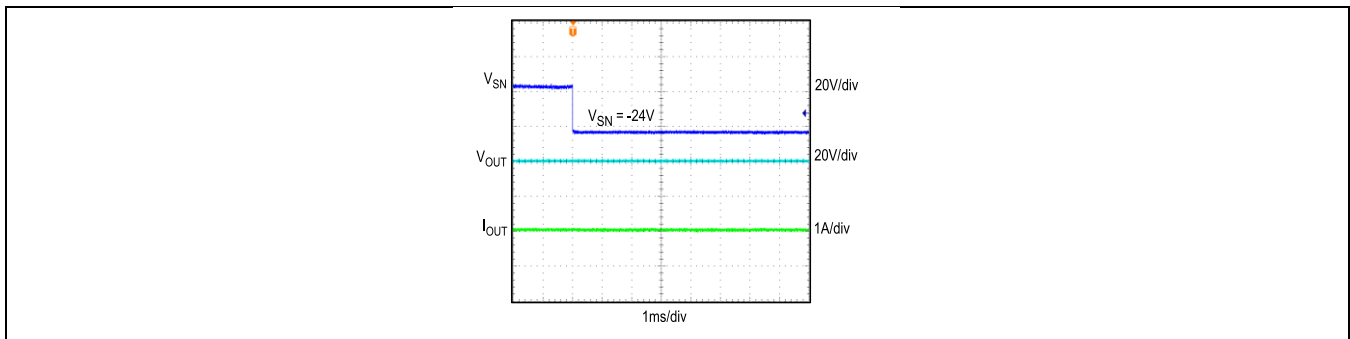
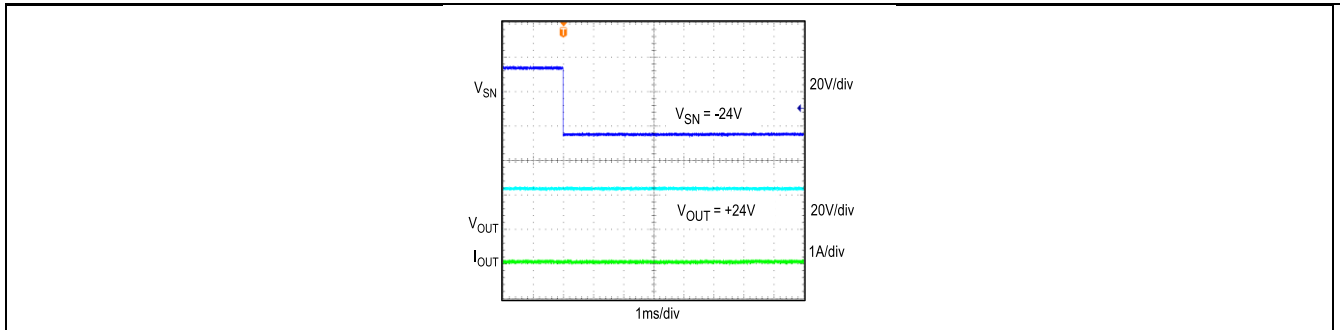

Figure 4. Input Reverse-Polarity Protection at  $V_{OUT} = 0V$  and  $V_{SN} = -24V$
Figure 5. Input Reverse-Polarity Protection at  $V_{OUT} = +24V$  and  $V_{SN} = -24V$
The magnitude of reverse-polarity voltage protection is dependent on the operating load bus voltage ( $V_{OUT}$ ) and the voltage blocking capability of the external nFET. For example, for protection down to a -55V input voltage with  $V_{OUT} = 30V$ , an external nFET rated for 85V is needed. The MAX17527A provides a gate drive (GN) of 4.75V (typ). Figure 4 shows the reverse-polarity protection of MAX17527A with  $V_{OUT} = 0V$  and  $V_{SN} = -24V$ . Figure 5 shows the reverse-polarity protection of MAX17527A with  $V_{OUT} = +24V$  and  $V_{SN} = -24V$ .